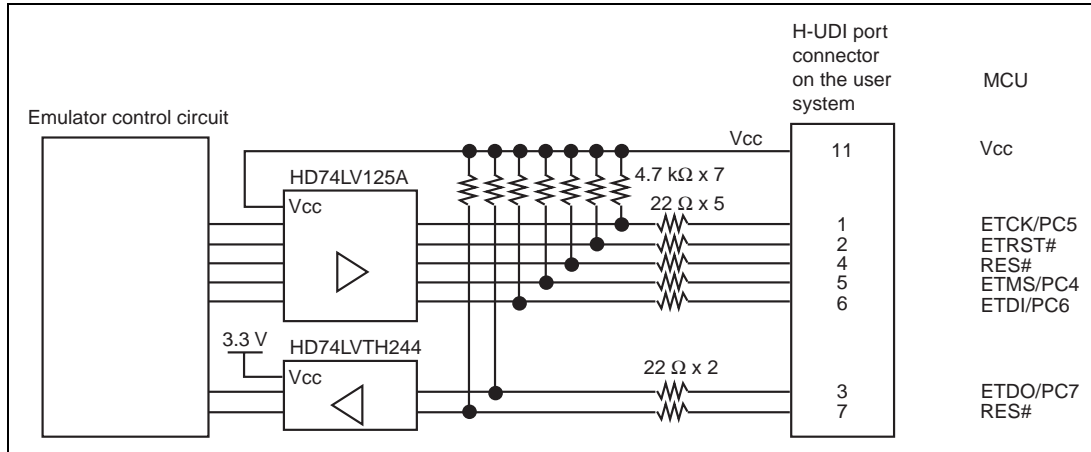

Figure 4.7 Interface Circuit in the Emulator (Reference)
8. Figure 4.7 shows the interface circuit in the emulator. Use this figure as a reference to decide the pull-up resistance value.